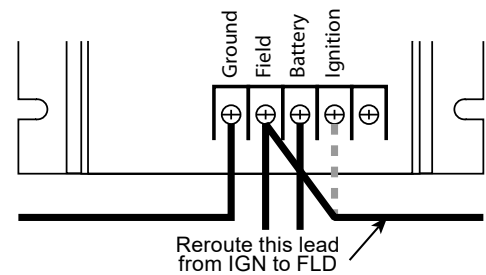

Figure 5: Reuse Existing FLD wire for IGN by Jumping Terminals
- 50-VR regulator without Deutsch connector (see Figure 5): Disconnect IGN lead at regulator IGN terminal and reconnect to FLD terminal on regulator. Torque screw to 1.4–1.7 Nm/12–15 lb. in.